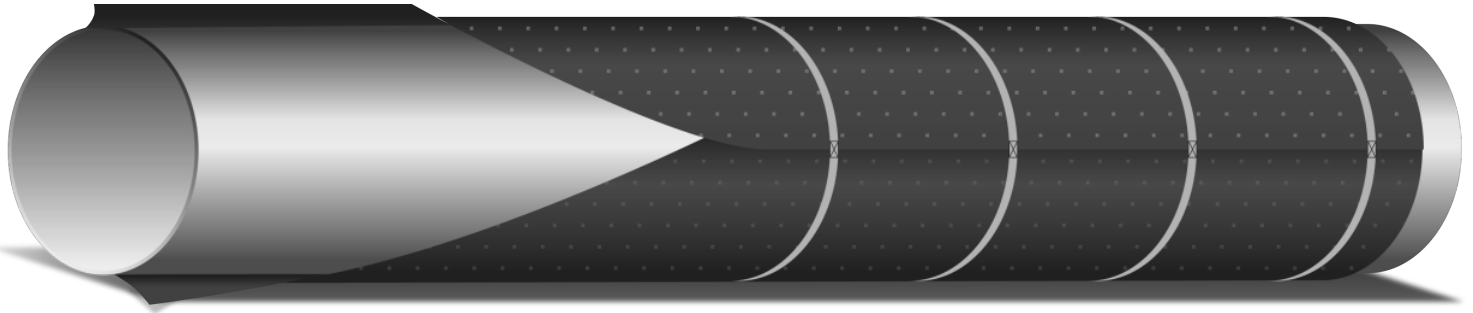

Figure 1: Longitudinal Wrap
**RockArmour™ PRO** is installed longitudinally around the pipe as Figure 1 below, and it is secured by means of ties.